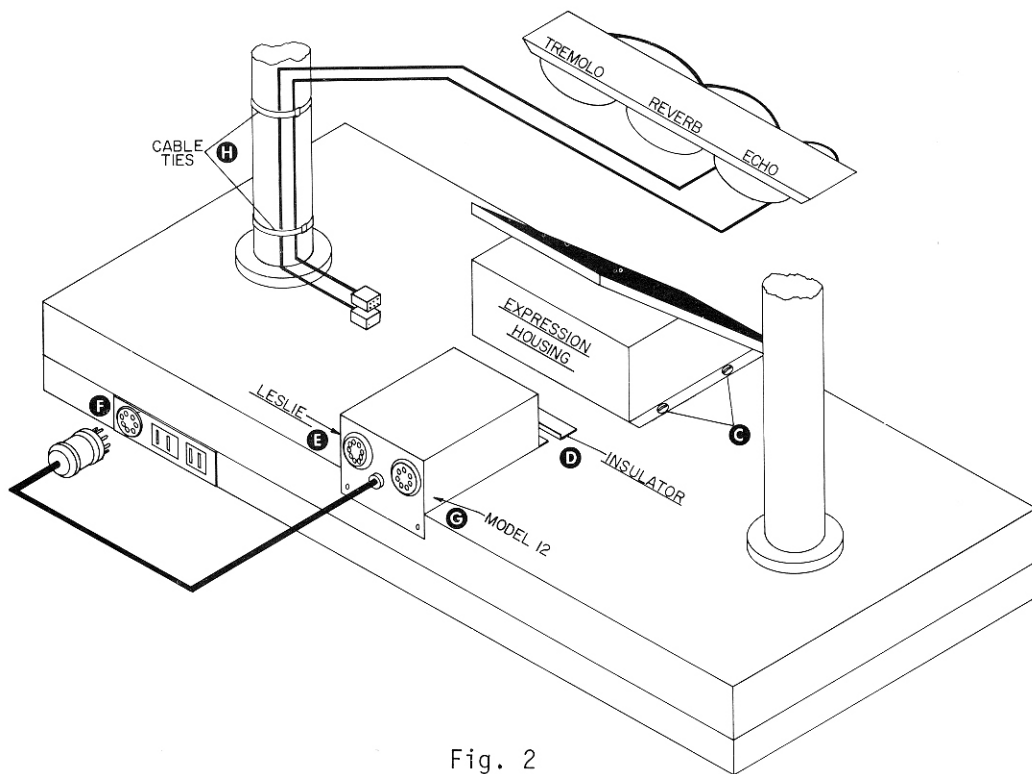

Fig. 2
6. Loosen, but do not remove, the four screws securing the expression housing to the wooden base of the console. (See "C" on Fig. 2)
7. Place the insulation material provided on the front lip of the connector chassis. Insert the lip under the rear of the metal expression housing base. Center the chassis behind the housing. (See "D" on Fig. 2)
8. Drill two 1/16 inch pilot holes (See "G" on Fig. 2) and secure the connector chassis with the wood screws provided.
9. Re-tighten the screws securing the expression housing. (See "C" on Fig. 2)
10. Remove the Model 12 speaker cable from the console "OUTPUT" socket and plug it into the 7-contact socket on the connector chassis. (See "G" on Fig. 2)
11. Plug the adapter cable into the "OUTPUT" socket on the console. (See "F" on Fig. 2)
12. Plug the Leslie Speaker cable into the 9-contact socket on the console connector chassis. (See "E" on Fig. 2)
17. Route the control cable down the right-hand chrome stand and insert the plug into the 7-contact socket on the side of the connector chassis. Secure the control cable to the stand with the nylon cable ties provided. (See "H" on Fig. 2)